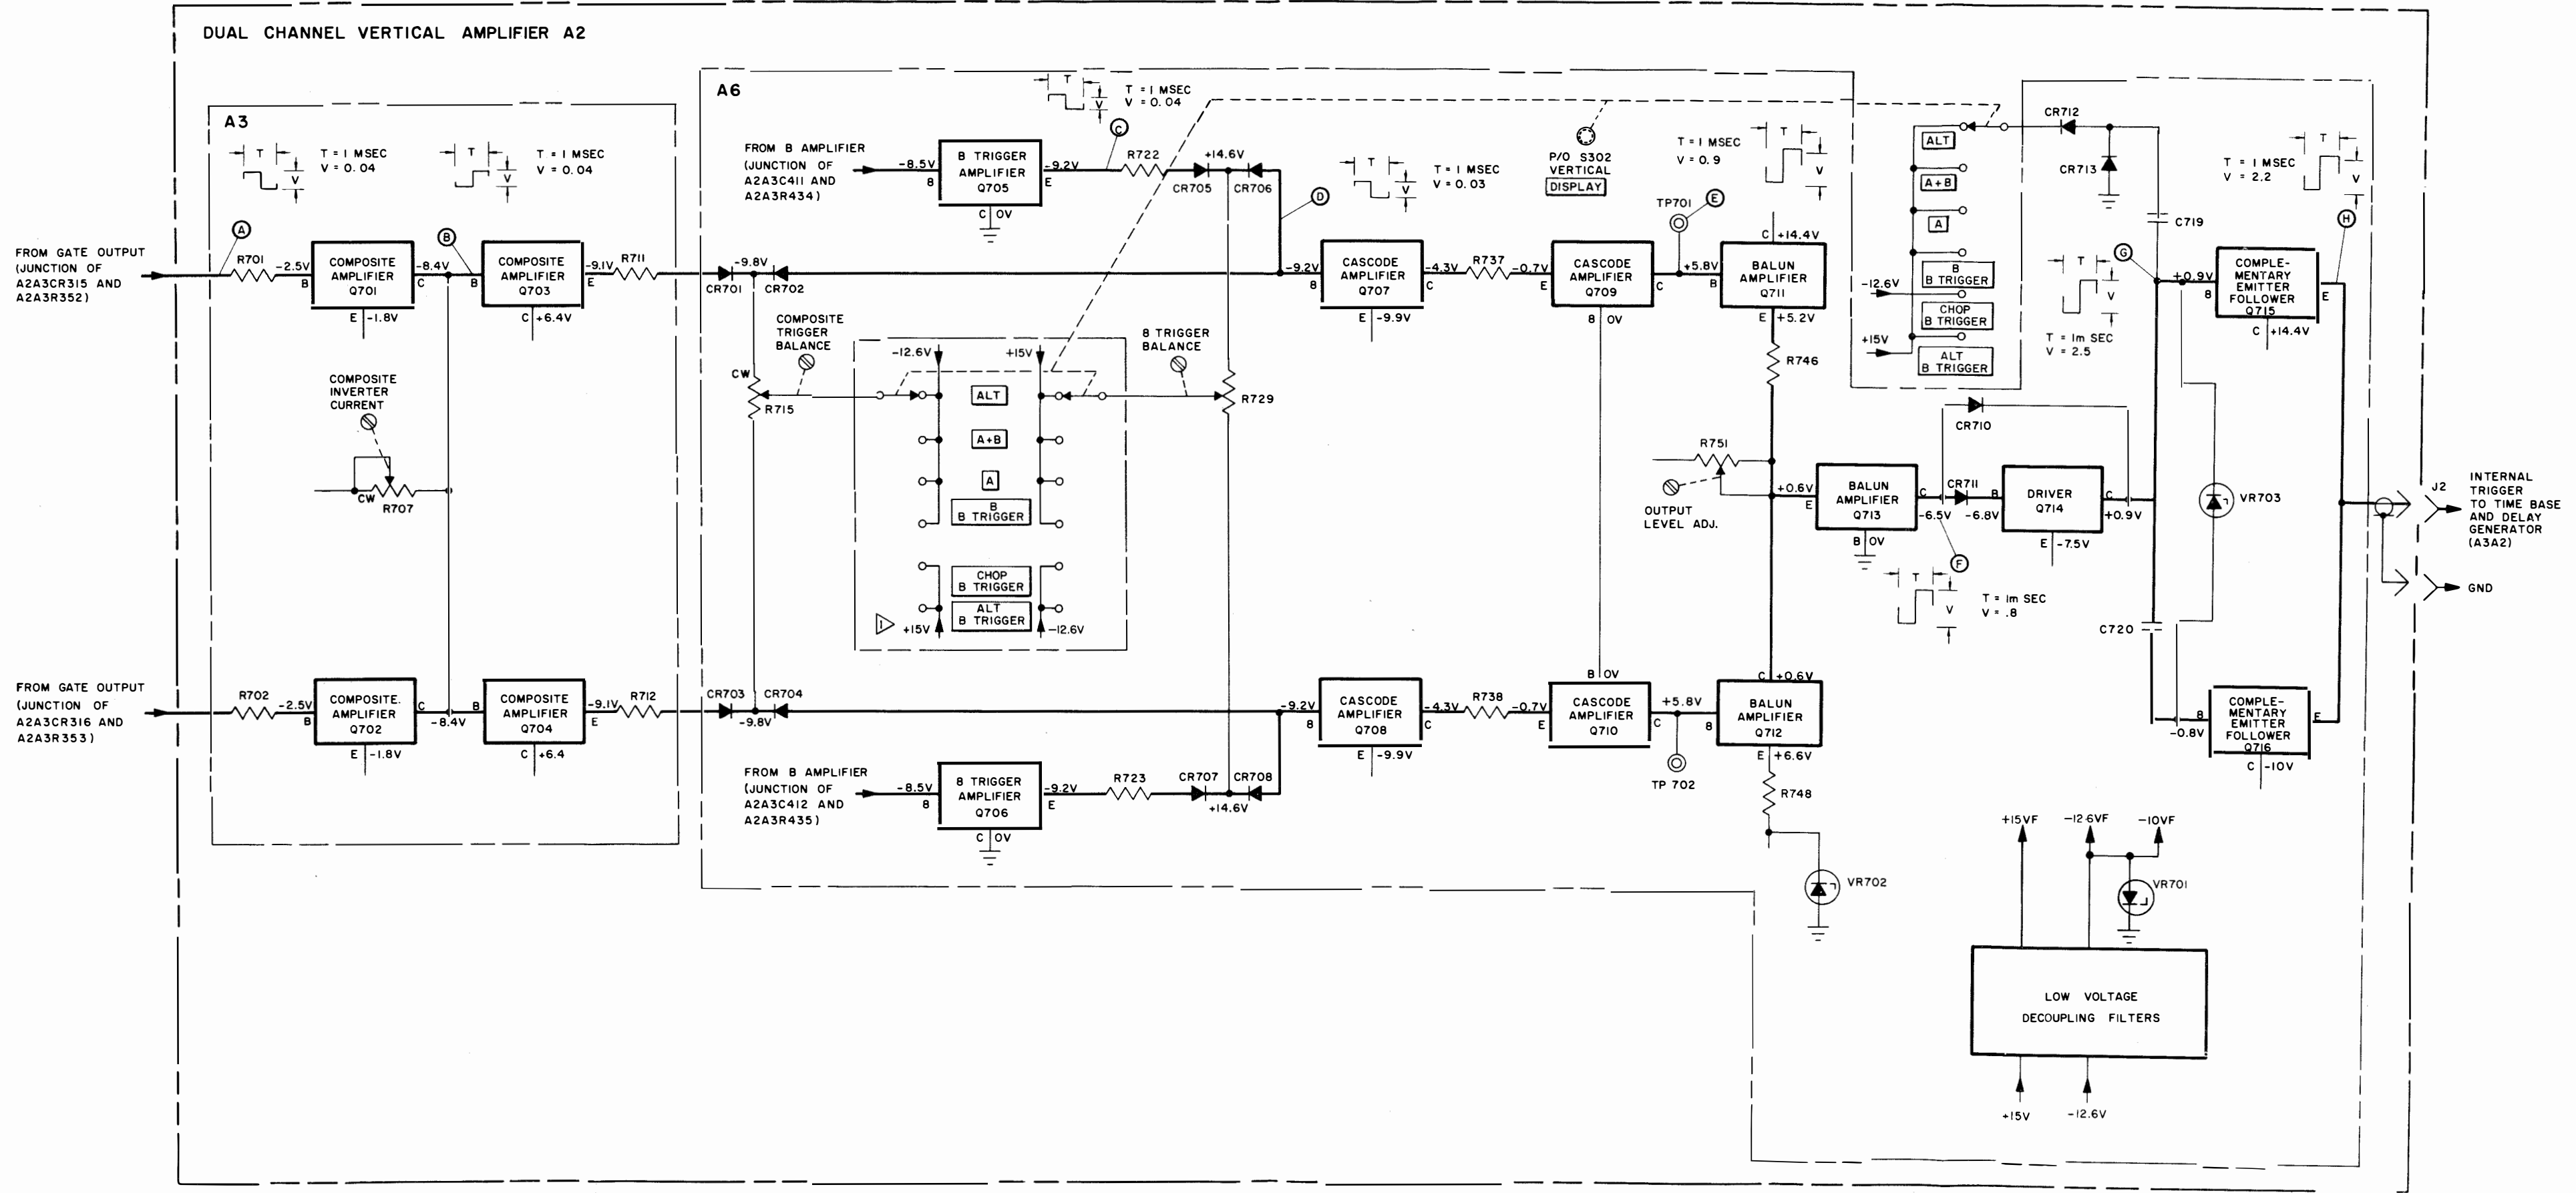

Figure 4-11. Sync Amplifier Functional and Servicing Block Diagram
a. SYNC AMPLIFIER FUNCTIONAL DESCRIPTION. - The composite vertical signal from the gate circuit (refer to paragraph 4-11a) is applied to the base of A2A3Q701 and A2A3Q702. See figure 4-11. The signal is amplified, inverted and applied through emitter followers A2A3Q703 and A2A3Q704 to a diode switch (A2A6CR701 through A2A6CR704). Composite inverter current control A2A3R707 adjusts the operating point of the inverter-amplifier. The signal from the channel B amplifier (refer to paragraph 4-11a) is applied through emitter followers A2A6Q705 and A2A6Q706 to a diode switch consisting of A2A6CR705 through A2A6CR708. Vertical DISPLAY switch
b. SYNC AMPLIFIER TROUBLE SHOOTING. - The trouble-shooting chart for the sync amplifier functional section is provided in table 4-10 and the servicing block diagram is shown in figure 4-11. A trouble can usually be isolated to this functional section by setting the oscilloscope controls to obtain a main sweep (refer to Section 3), connecting the CALIBRATOR 250MV output to one of the vertical inputs and observing the CRT. With the main trigger coupling set to INT and the SWEEP MODE in AUTO, a stable display should appear on the CRT. If the display can
c. USEFUL ILLUSTRATIONS. - Illustrations useful in maintaining this functional section are: Figures 4-11, 5-22, 5-25 and 5-31.